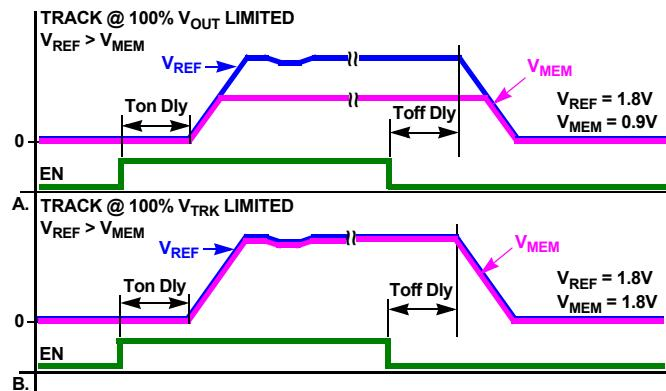
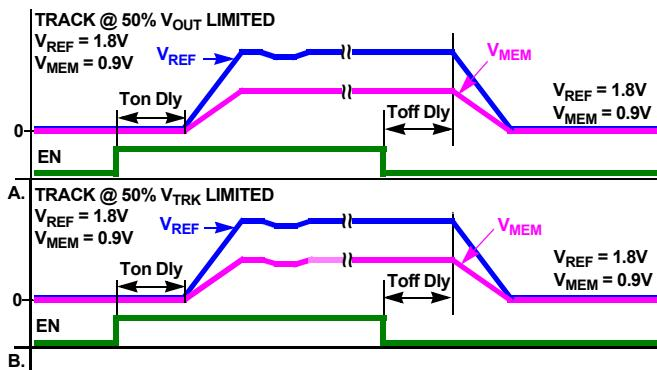

FIGURE 18. COINCIDENT TRACKING
FIGURE 19. RATIO METRIC TRACKING
The ZL8101 offers two modes of tracking: coincident and ratiometric. Figure 18 and Figure 19 illustrate the output voltage for the two tracking modes.
- Track at 100% VOUT limited. Member rail tracks the reference rail and stops when the member reaches its configured target voltage. Figure 18 A.
- Track at 100% VTRK limited. Member rail tracks the reference at the instantaneous voltage value applied to the VTRK pin. Figure 18 B.
The configuration settings for Figures 18 and 19 are shown below in Tables 15 and 16. In each case, the reference and member rise times are set to the same value.